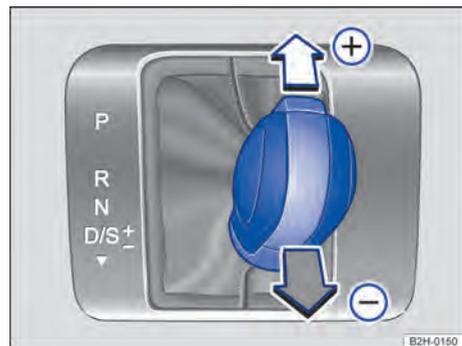

Fig. 104 Selector lever in Tiptronic position (left-hand drive vehicles). Right-hand drive vehicles are mirrored.
2. Move the selector lever forward (+) or backward (-) to increase or decrease the speed → Fig. 104.